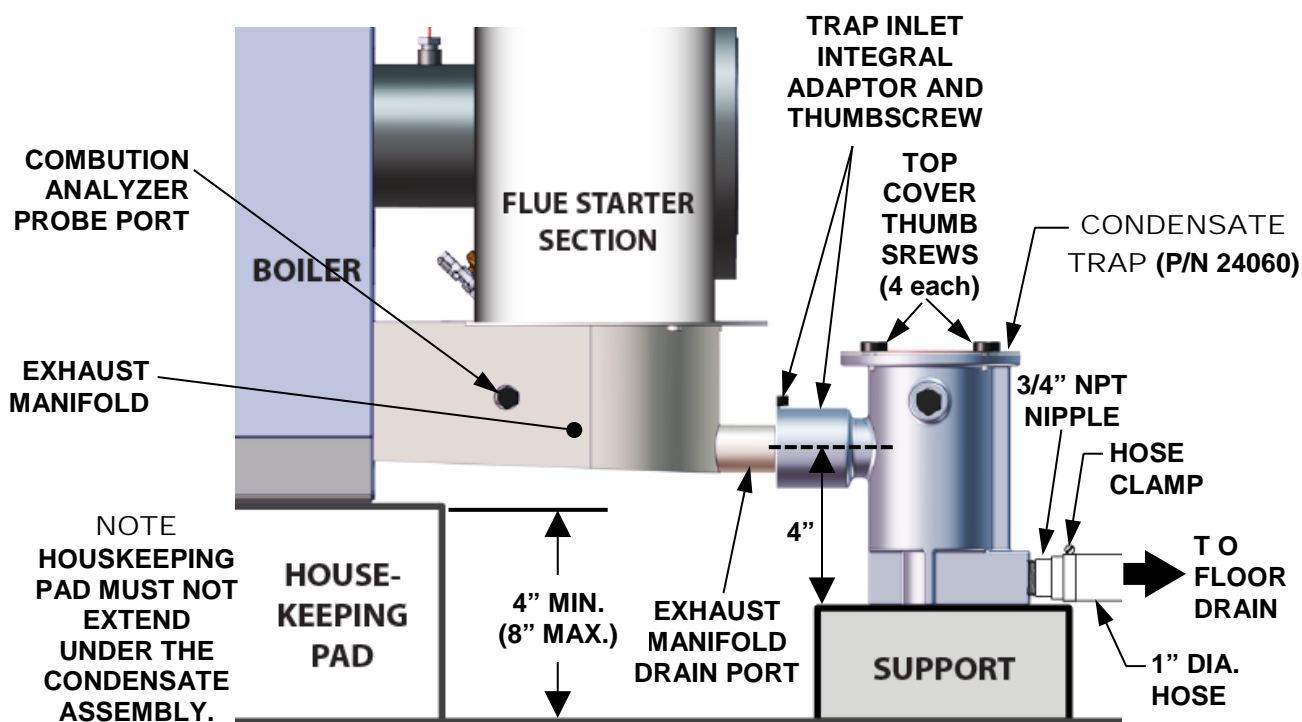

Figure 2-6: Sample Condensate Trap Installation (Right Side View)
A sample condensate trap installation is shown in Figure 2-6. The following general guidelines must be observed to ensure proper condensate drainage:
1. The condensate trap inlet (Figure 2-6) must be level the exhaust manifold drain port.
1. Connect the condensate trap inlet to the exhaust manifold drain connection by inserting the drain port directly into the trap adaptor inlet, and then tightening the inlet thumbscrew, as shown in Figure 2-6. The inlet features two integral O-rings to prevent leakage.
Use PVC, stainless steel, aluminum or polypropylene for condensate drain piping (Figure 2-6). DO NOT use carbon or copper components.